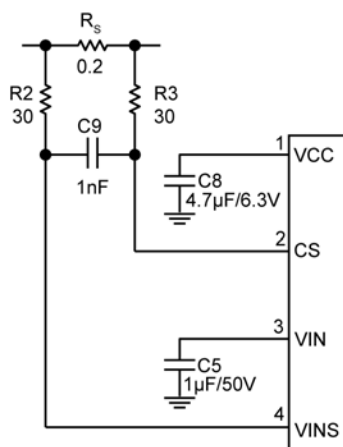

Figure 3. Input Filter for Low Values of ΔV_{HYS}
- Make a Kelvin connection to the VINS and CS pin, respectively, for current sensing. For low values of ΔV_{HYS} (around 40mV) the switching noise could cause faulty switching on the DRV pin. If this occurs, place two 30 Ω resistors and a 1nF capacitor, as shown in Figure 3, to filter out switching noise for low values of ΔV_{HYS} . Alternatively, as seen in Equation 8, a smaller inductor value can be used to increase ΔV_{HYS} and make the system more noise tolerant.